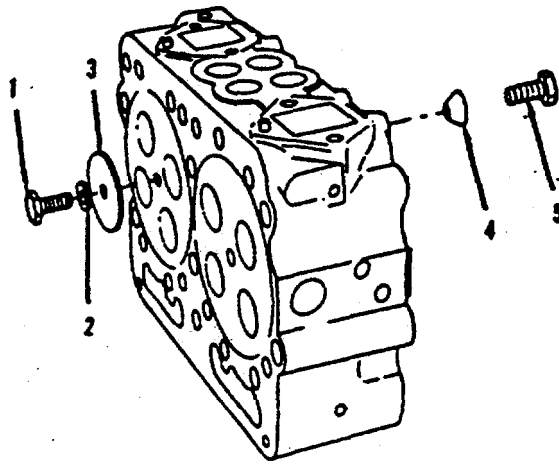

FIGURE 4-9. *Injector Sleeve Holding Tool.*
(1) Install two injector sleeve holding tools in each cylinder head, (Figure 4-9). Each injector sleeve holding tool consists of two hexhead capscrews (1, 5), flat washer (2), anvil (3) and mandrel (4).